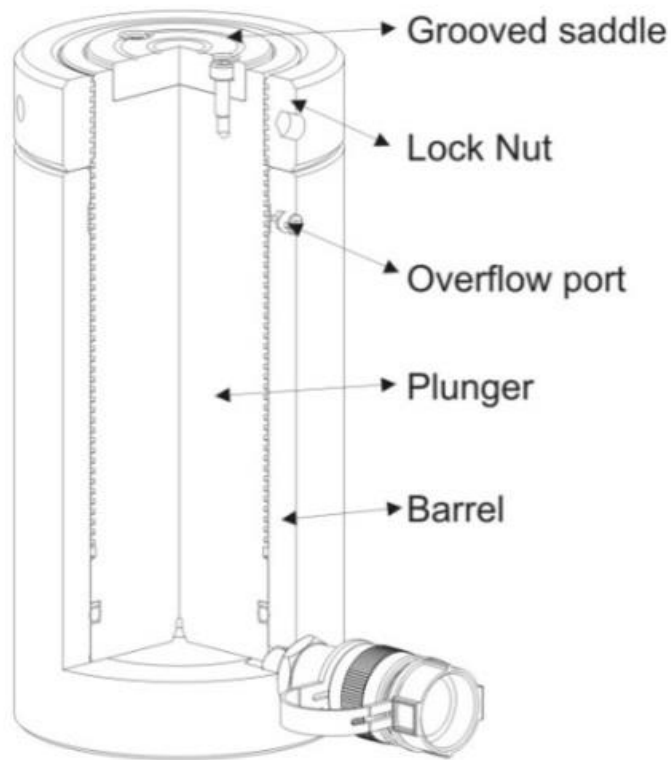

Figure 2 – RSLC Series Sectional Drawing
4.5 Remove air from the system – Position the cylinder so that the piston rod is pointed down and the cylinder is lower than the pump. Advance and retract the cylinder several times, avoiding pressure build-up. Air removal is complete when the cylinder motion is smooth. See Figure 2 (below).